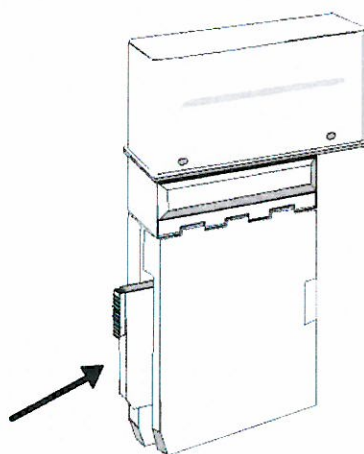

Figure 5: Placing the Canister into the CRF
8.20.1 Holding the CRF as oriented in Figure 5, insert the canister in the open slot at the forward side of the doors
8.21 Push the canister back until the canister is flush with the forward face of the CRF (Figure 5). The doors will snap closed.